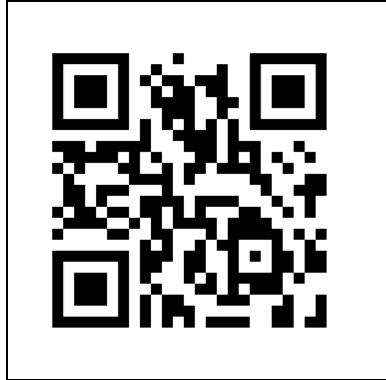

Figure 11
1. Scan the QR code (Figure 11) to open the video. This video demonstrates the installation of this device.